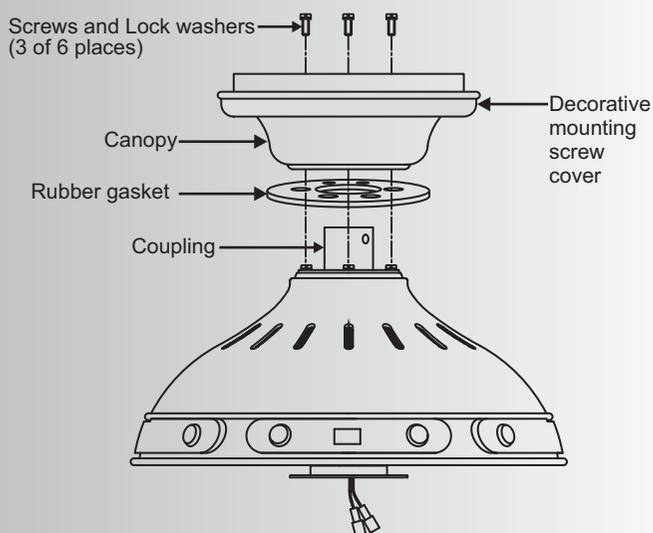

Fig. 9
Step 1. Remove three of the six screws and lock washers (every other one) from the collar on top of the motor assembly. Place the ceiling fan canopy and rubber gasket over the collar and align the mounting holes with the holes in the collar. Attach the canopy and rubber gasket with the three screws and lock washers previously removed. (Fig. 9)